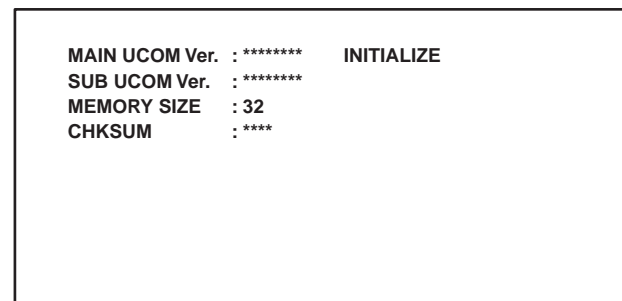

Fig. 3
- "INITIALIZE" (red) appears on the screen as shown in Fig. 3.